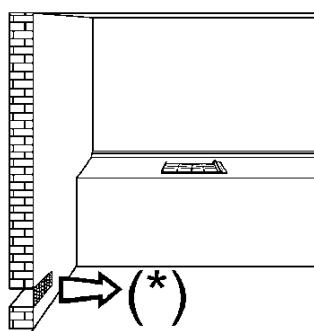
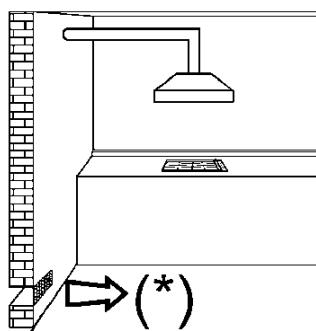
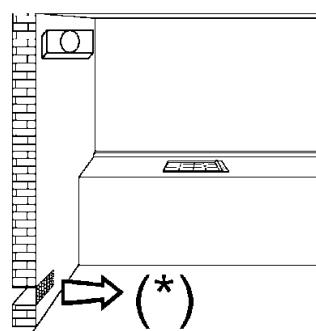

FIG. 3
FIG. 4
FIG. 5
- *use of a gas cooking appliance produces heat and moisture in the room in which it is installed. The room must therefore be well ventilated by keeping the natural air vents clear (see fig. 3) and by activating the mechanical aeration device (suction hood or electric fan fig. 4 and fig. 5).*